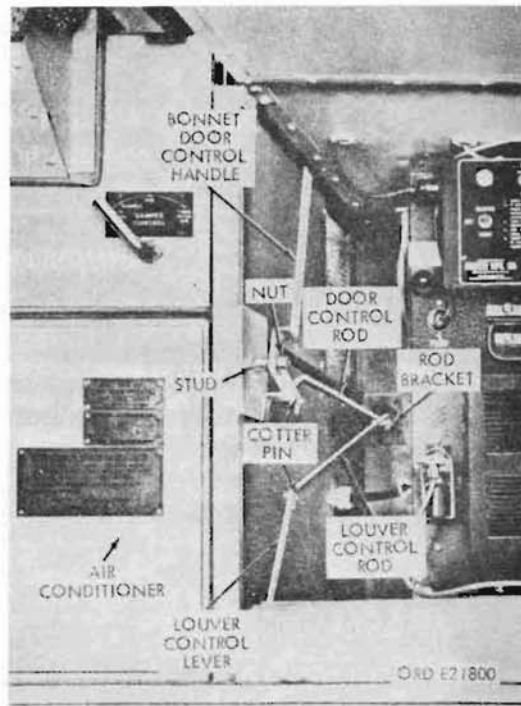

Figure 365. *Bonnet door right-hand controls and linkages*
a. Bonnet Front Door Control Handles (Fig. 365).
(1) Removal.
b. Bonnet Drainage Louver Control Rod (Fig. 365).
- (1) Removal. Remove cotter pins which attach ends of louver control rod to bracket on door control rod and to drainage louver control lever and remove rod.
- (2) Installation. Insert ends of louver control rod into bracket on door control rod and into drainage louver control lever and secure rod ends with two cotter pins.